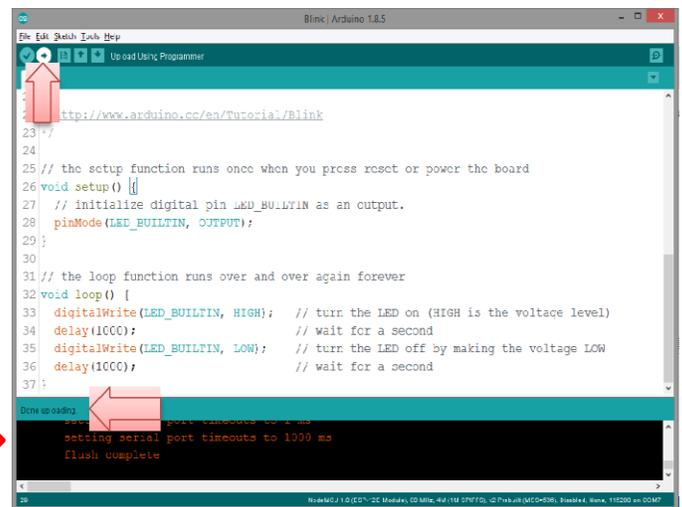

Figure 2.24: Step 9 Installing ESP32 or ESP8266
- Refer Figure 2.24, click on the Upload icon, and wait for the compiler and uploader to complete.